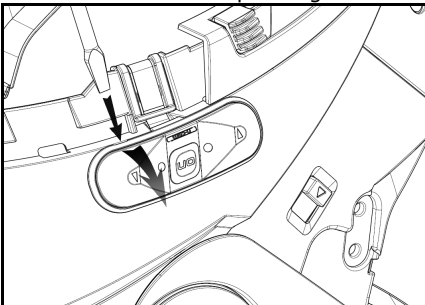

Fig. 12
- Remove the keypad from the shell, using a flat head screwdriver (or a similar tool) to lever upwards in the special hollow as shown in fig. 12.